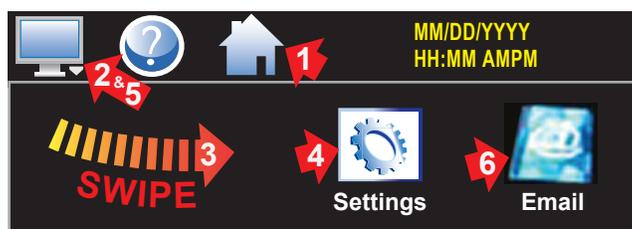

Figure 43. Email Icon
1. Touch: (1)Home (2)Monitor (3)swipe left-to-right, touch (4)Settings (5) Monitor (6)Email (Figure 43).